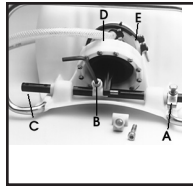

Figure 1.
1. Using a 13mm socket wrench, remove handle bolts and loosen the stop plate (A) and remove the two allen head screws (B) that hold the connecting pieces to the pump rod. Figure 1.